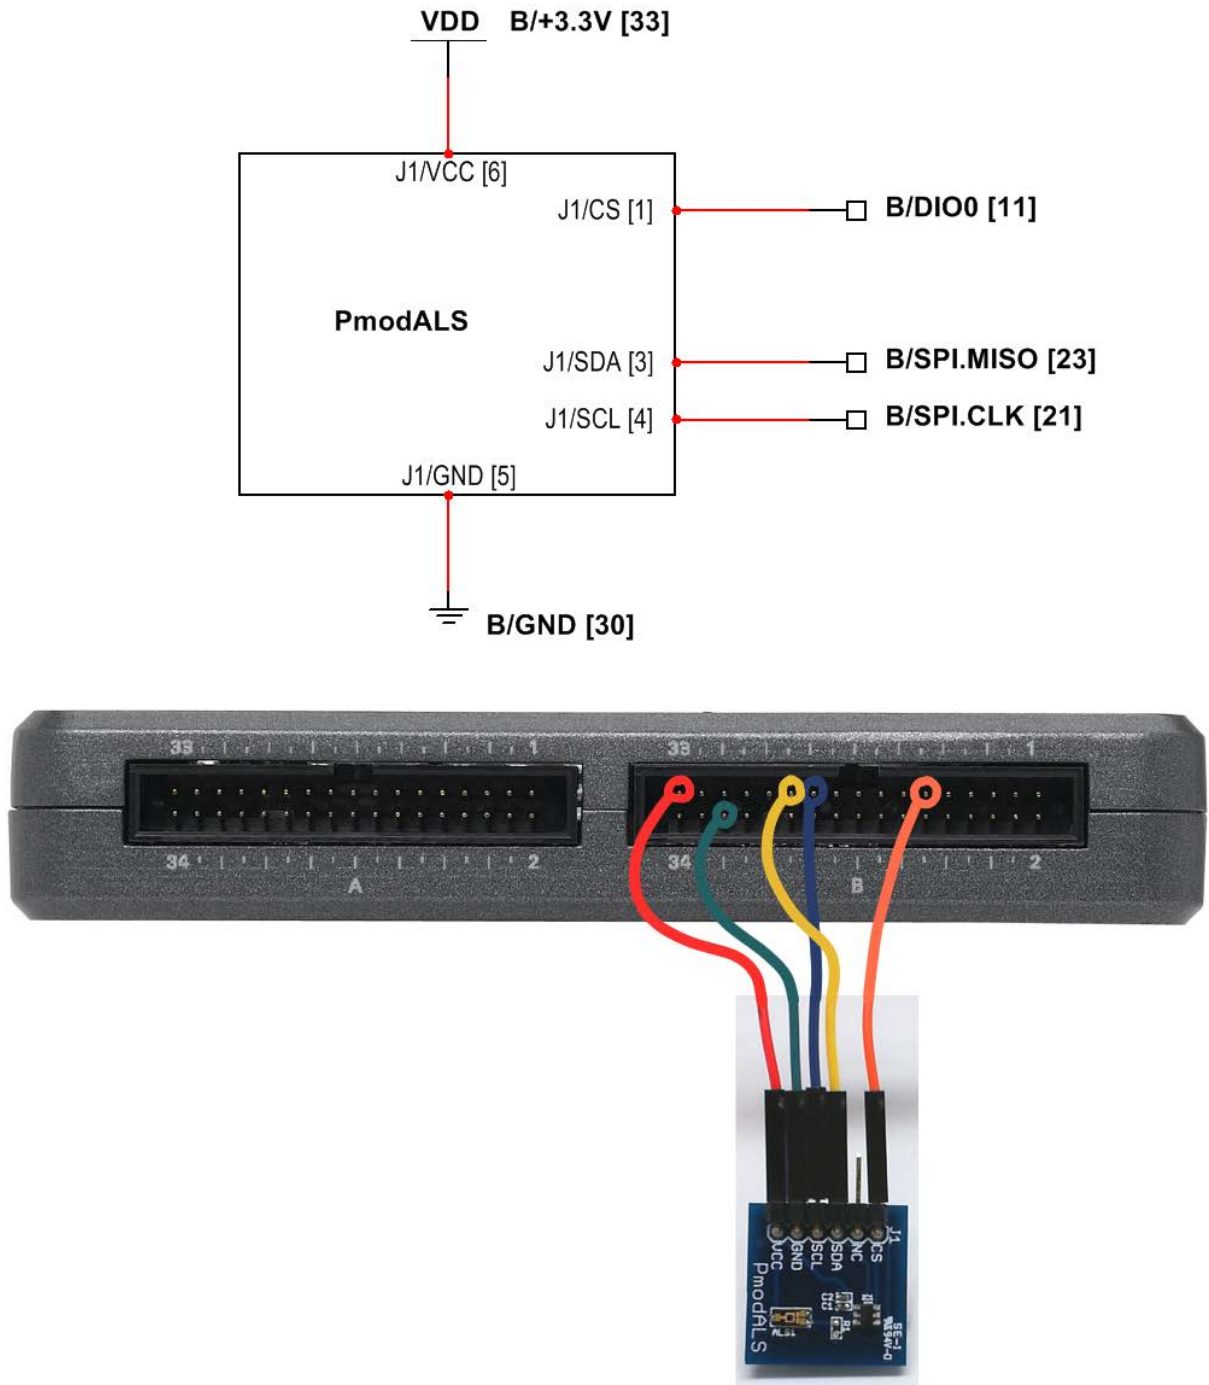

Figure 24.2: Demonstration setup for ambient light sensor connected to NI myRIO MXP Connector B.
**Build the interface circuit:** Refer to the schematic diagram shown in Figure 24.2 on the following page; the ambient light sensor requires five connections to NI myRIO MXP Connector B (see Figure A.1 on page 233):